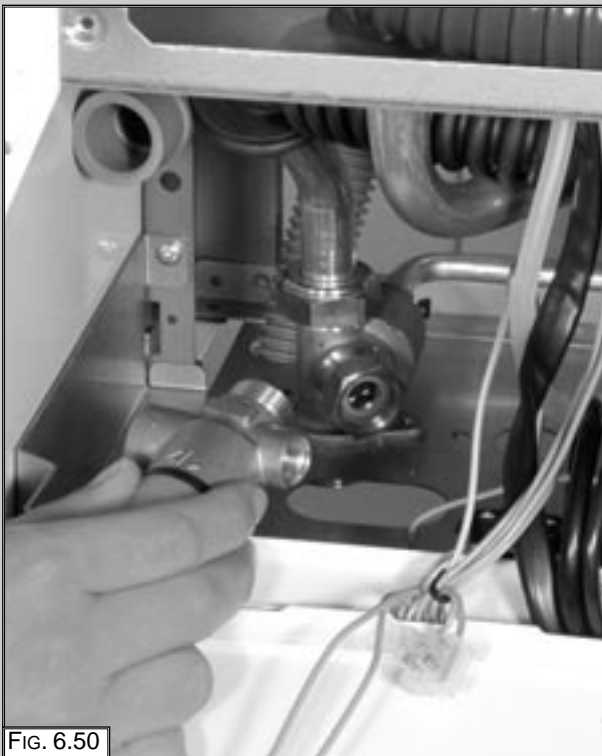

FIG. 6.50
2. Unscrew and remove the valve (Fig. 6.50).